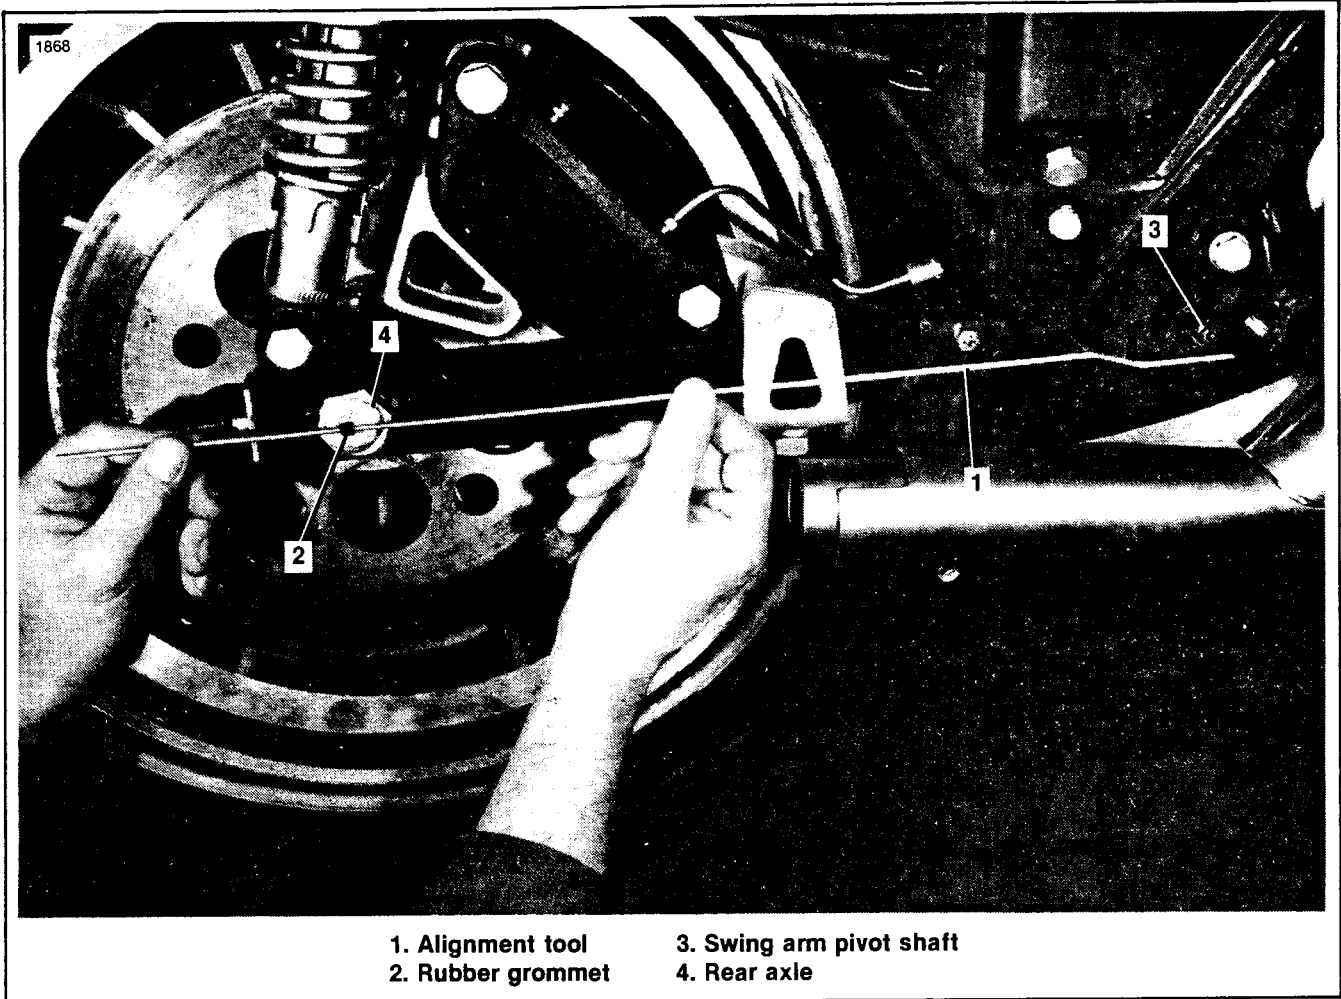

Figure 2. FLT Rear Wheel Alignment Procedure
2. See Figure 2. With the blunt end of the alignment tool inserted in one end of the swing arm pivot shaft, slide the rubber grommet along the tool until it is aligned with the center of the rear axle as shown. Repeat for the other end of the pivot shaft.